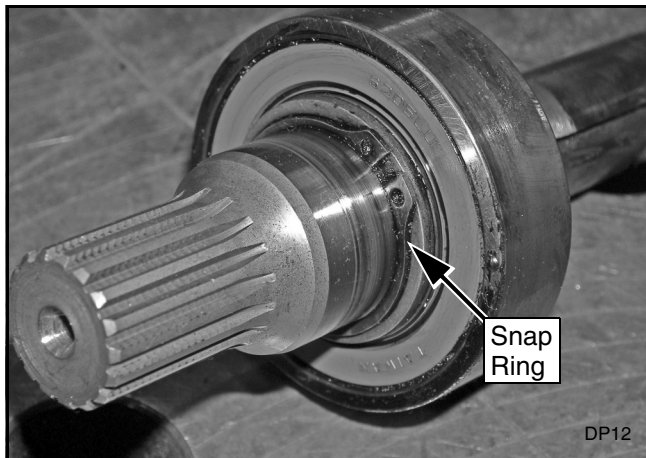

Figure 12. Remove Snap Ring
5. Remove snap ring (Figure 12) from the shaft and slide spacer and bearing from shaft. Save snap ring and spacer for later use.